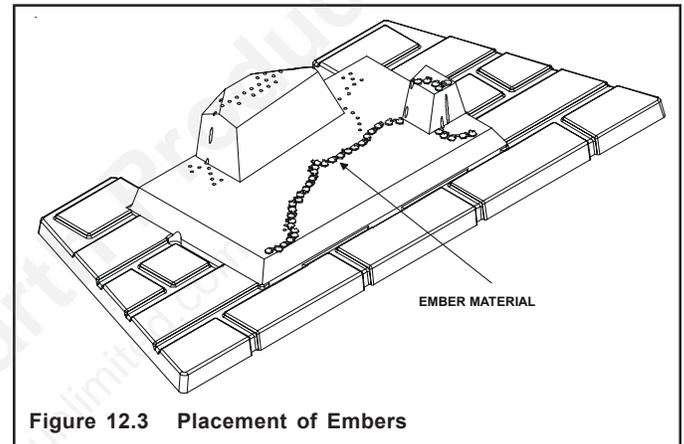

Figure 12.3 Placement of Embers
→ Figure 12.3 Rheostat Location
- When placing Glowing Embers[®] onto the burner care should be taken so that the ports are not covered. Place the dime-size ember pieces just in front of the port trail, but not on or in between the ports (see Figure 12.3). Failure to follow this procedure will likely cause lighting and sooting problems.